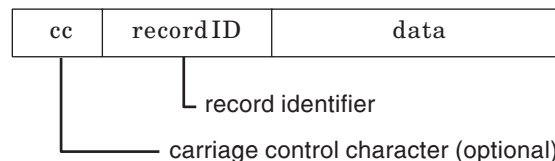

Figure 31. Record Format Line Data Record
A type of line data that is supported by PSF and formatted by a page definition is record format line data. With this format, each data record contains a record identifier, which selects the record descriptor (RCD) in a record format page definition that is used to format the line data, and might contain a carriage control (CC) byte. Record identifiers are 1–250 bytes. However, within a data map, all record identifiers must be the same length. You can use blanks to make the record identifiers the required length. Figure 31 shows the form of record format line data: